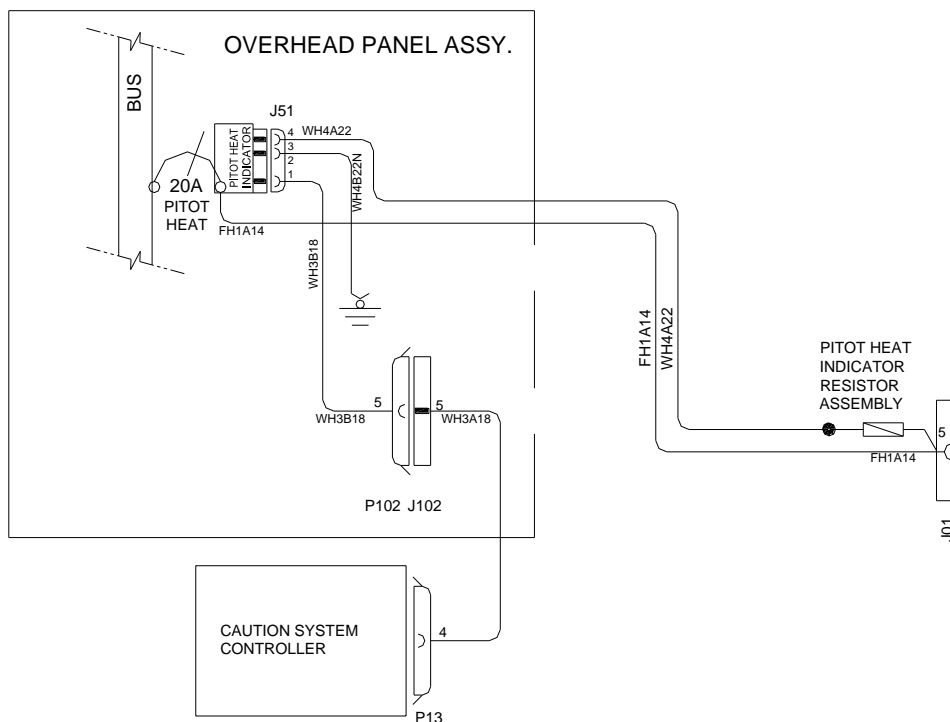

Figure 5-1 - Pitot heat installation (overhead panel)
2. Install circuit board (P/N GA8-315017-17) and wire FH1A14 to output terminal of the Pitot Heat Switch/Breaker in the overhead switch panel. Refer to Figure 5-1.
3. Install pitot heat indicator resistor assembly on the pitot heat feed wire FH1A14 at pin 5 of socket J01 of the wing root junction block. Solder one end of wire WH4A22 to the resistor, and the other end to pin 4 of socket J51 at the overhead electrical panel. Install wire WH4B22N between pin 3 of socket J51 and a suitable earth. Install wire WH3B18 between pin 1 of socket J51 and pin 5 of plug P102, and wire WH3A18 between pin 5 of socket J102 and pin 4 of plug 13 of the caution system controller. Refer to Figure 5-1.